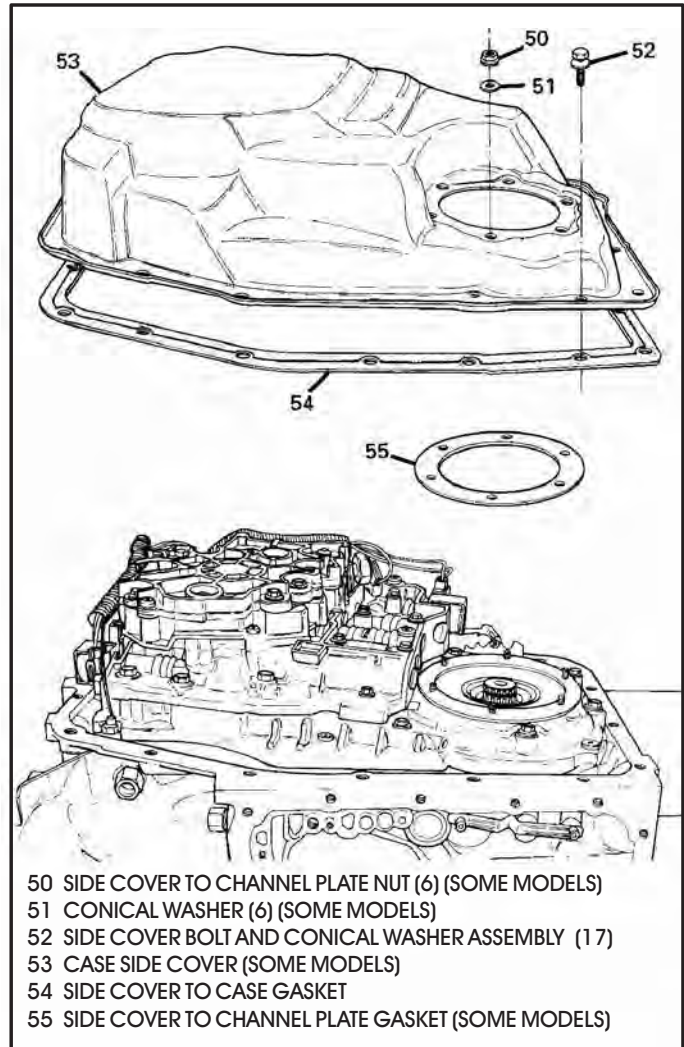

Figure 211
89. Install new side cover to case and side cover to channel plate gaskets, as shown in Figures 211 and 212.
90. Install side cover and 17 side cover to case bolts, as shown in Figures 211 and 212.
Special Note: Some models are equipped with a stamped steel side cover with retaining nuts and conical washers, as shown in Figure 211. Other models are equipped with structural (cast aluminum) side covers that do not use the retaining nuts and conical washers, as shown in Figure 212.
91. Install the six nuts and conical washers onto side cover, if equipped (See Figure 211).
92. Torque the seventeen side cover to case bolts to 11 N·m (98 in.lb.) (See Figure 211).
93. Torque the six side cover to channel plate bolts to 8 N·m (71 in.lb.) (See Figure 211).